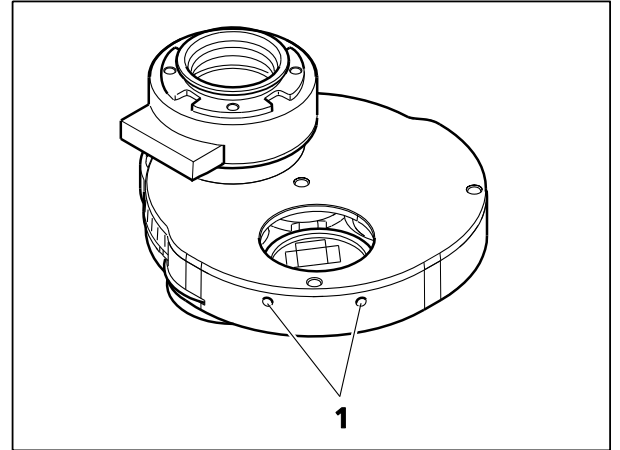

Fig. 4-10 Centering Screws
- If necessary, use the two centering keys to precenter the iHMC module in the mount, based on your visual judgment. The two holes for accessing the centering screws (Fig. 4-10/1) are located under the change position.